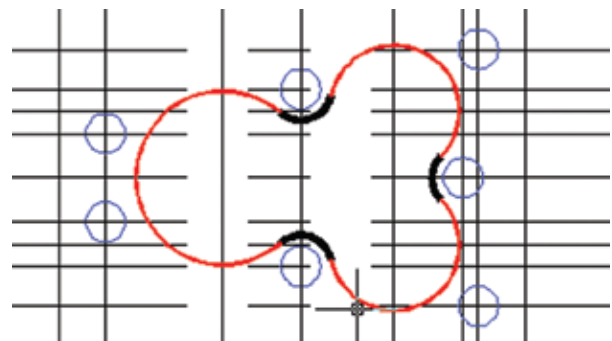

Figure 9.11
- Your drawing should now look like Figure 9.11.